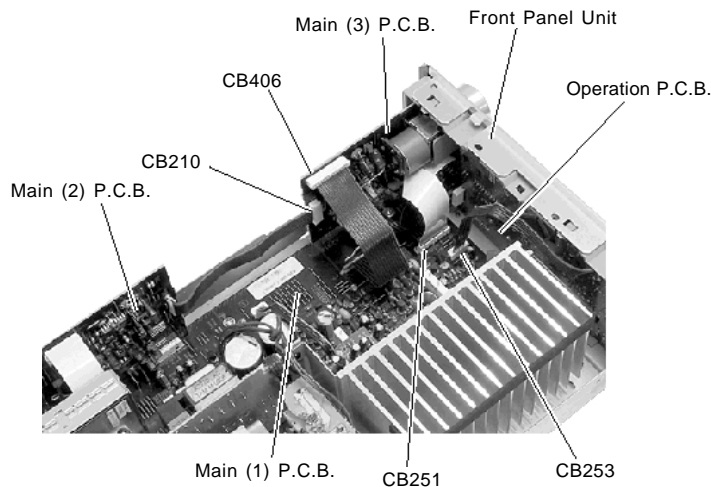

Fig. 2
- Disconnect 4 connectors (CB251, CB253, CB210, CB406) in Fig. 2.